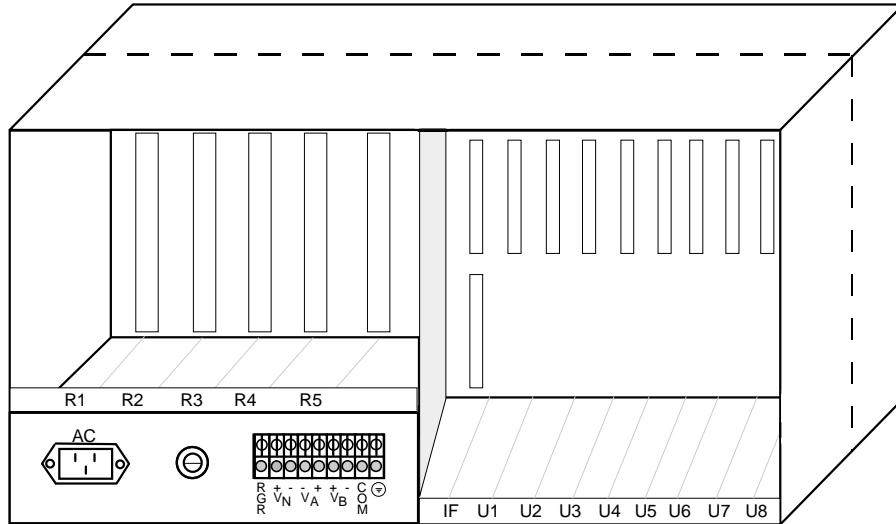

Figure 1-4. Two-Sided Chassis Rear View
Figure 1-4 shows the rear of the two-sided chassis, which is the CPE side. The eight user slots (U1 to U8) accommodate a variety of user cards, and the interface slot (IF) is used by the Interface card. Slots R1 to R5 accommodate the optional AC-to-DC power converters and ringing generators. Table 1-3 lists the card slots for these chassis; use that table to determine your chassis card configuration.